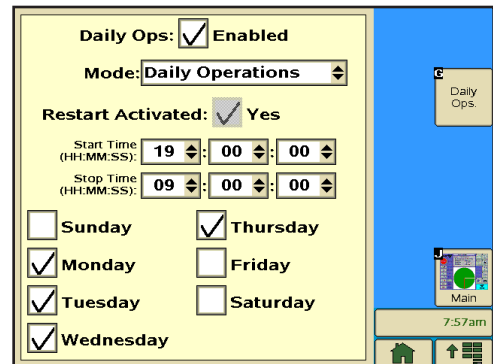

Figure 174-1
1. Push **Prog** and **Daily OPS** to view the Daily OPS Program screen. Refer to Figure 174-1.